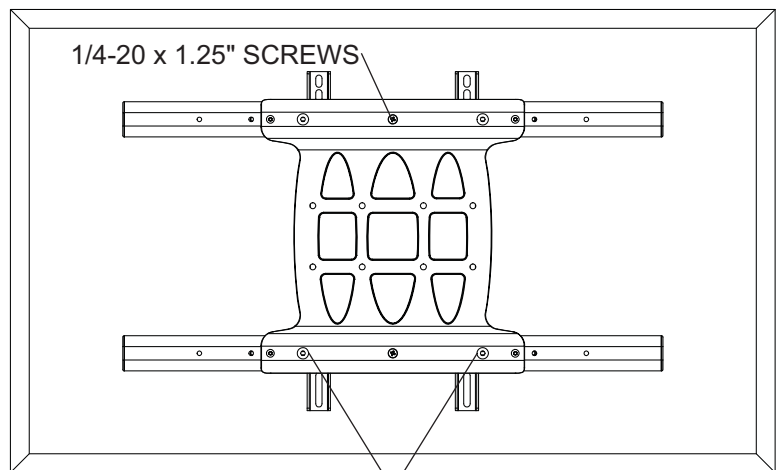

fig. 3.4
Tighten two 1/4-20 x 1.25" screws. Reinstall four 1/4-20 x .6" screws using 5 mm allen wrench (I) into fixed-stop position 1 as shown in figure 3.4.